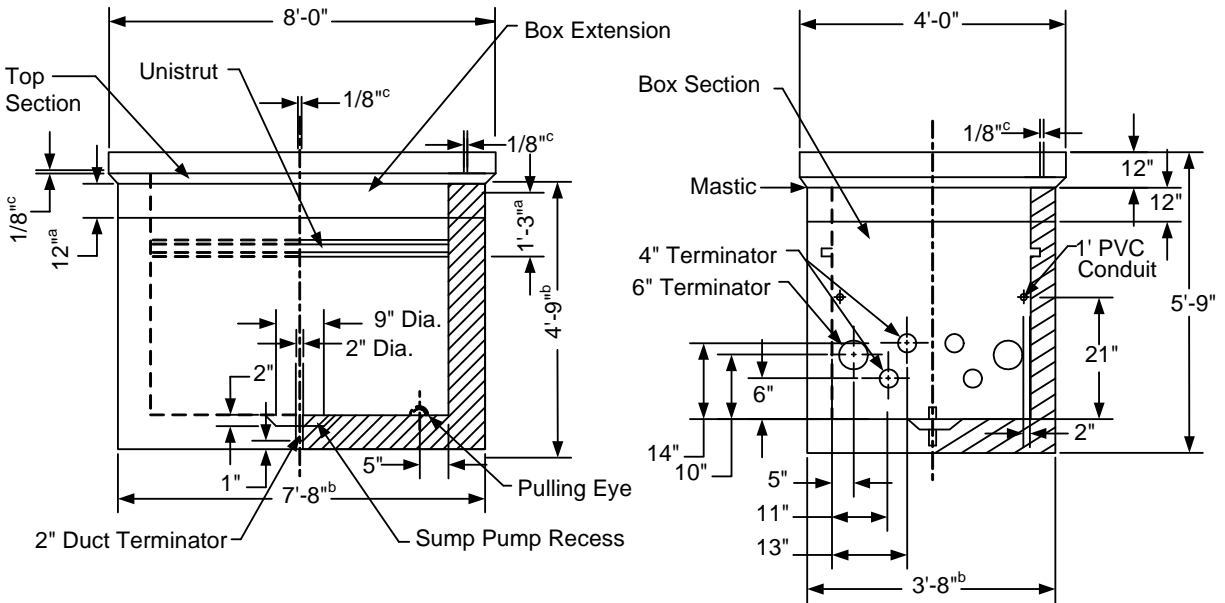

Figure 2. RS-82B Pullbox (Three Piece Lid) for Special Applications
2. TOP SECTION (FIGURE 2, THREE PIECE LID)